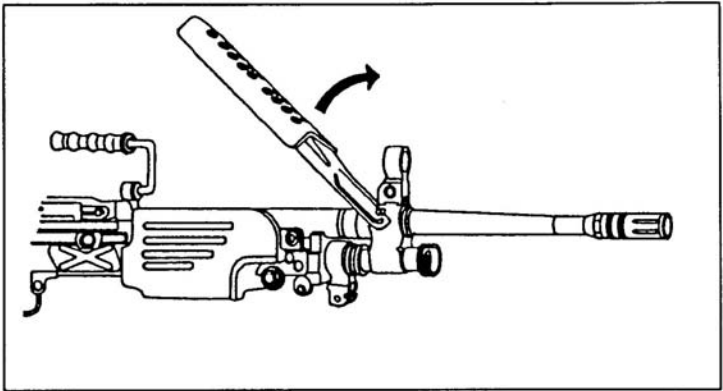

Figure 071-312-4025-6. Removal of the heat shield
d. Remove the barrel (figure 071-312-4025-7).
(1) Ensure that the folding handle on the new style barrel is in the carrying (up) position.
(2) Depress the barrel-locking lever with your left hand. Grasp and lift the carrying handle with your right hand. Push the barrel forward.